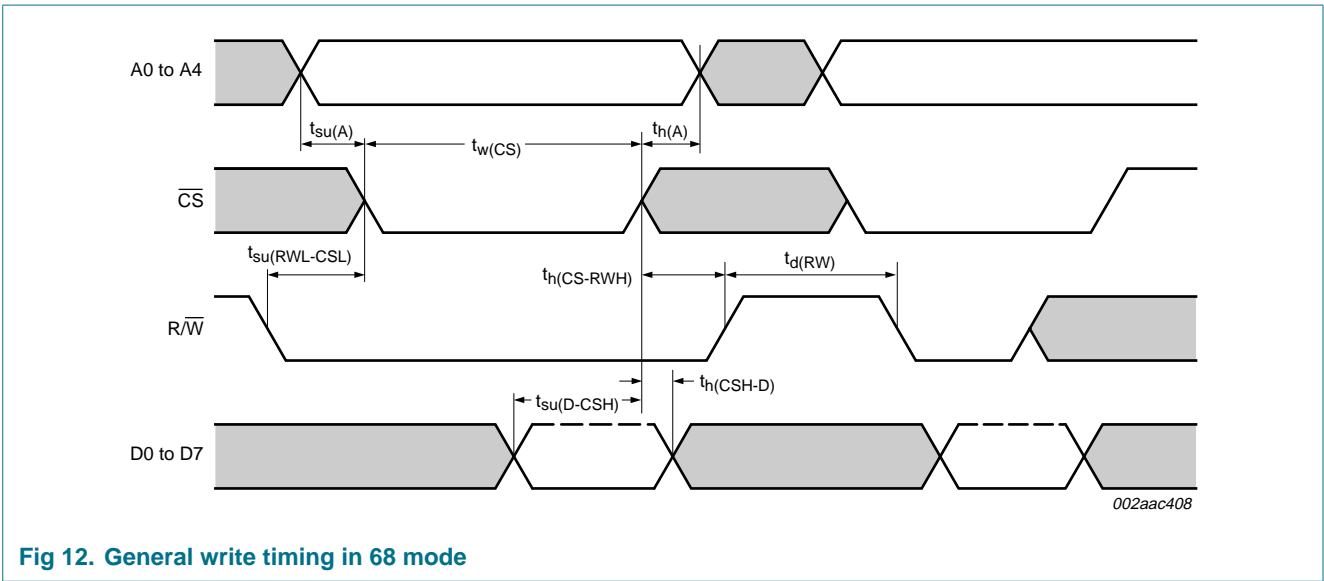

Fig 12. General write timing in 68 mode
- (1)  $\overline{CS}$  timing during a write cycle. See Figure 12.